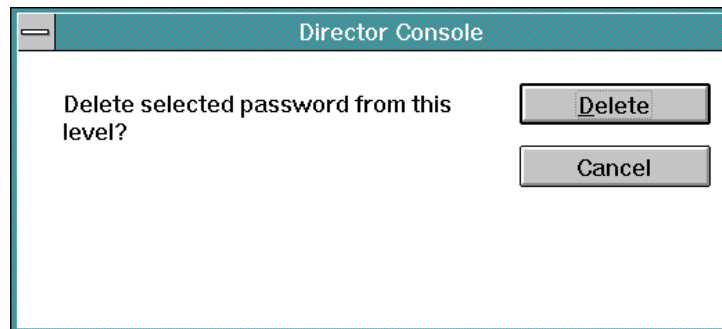

Figure 178. Delete Password Dialog Box
4. At the list box, select (highlight) the password and user description to be deleted, and click the *Delete* button. The following dialog box appears (Figure 178).